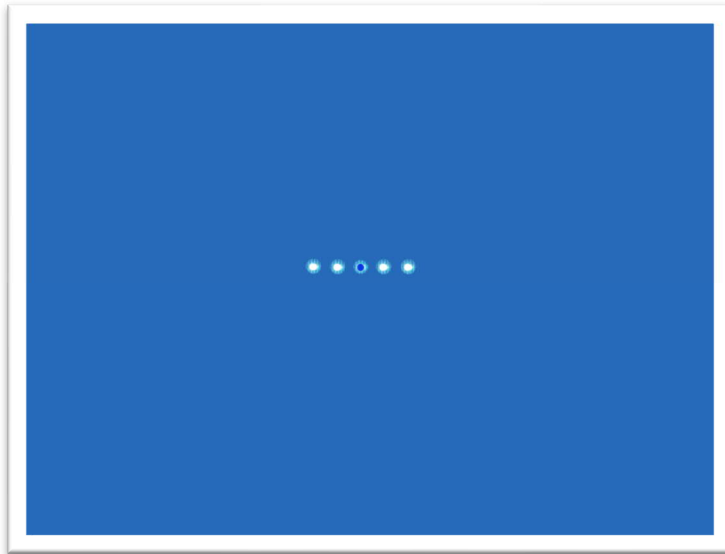
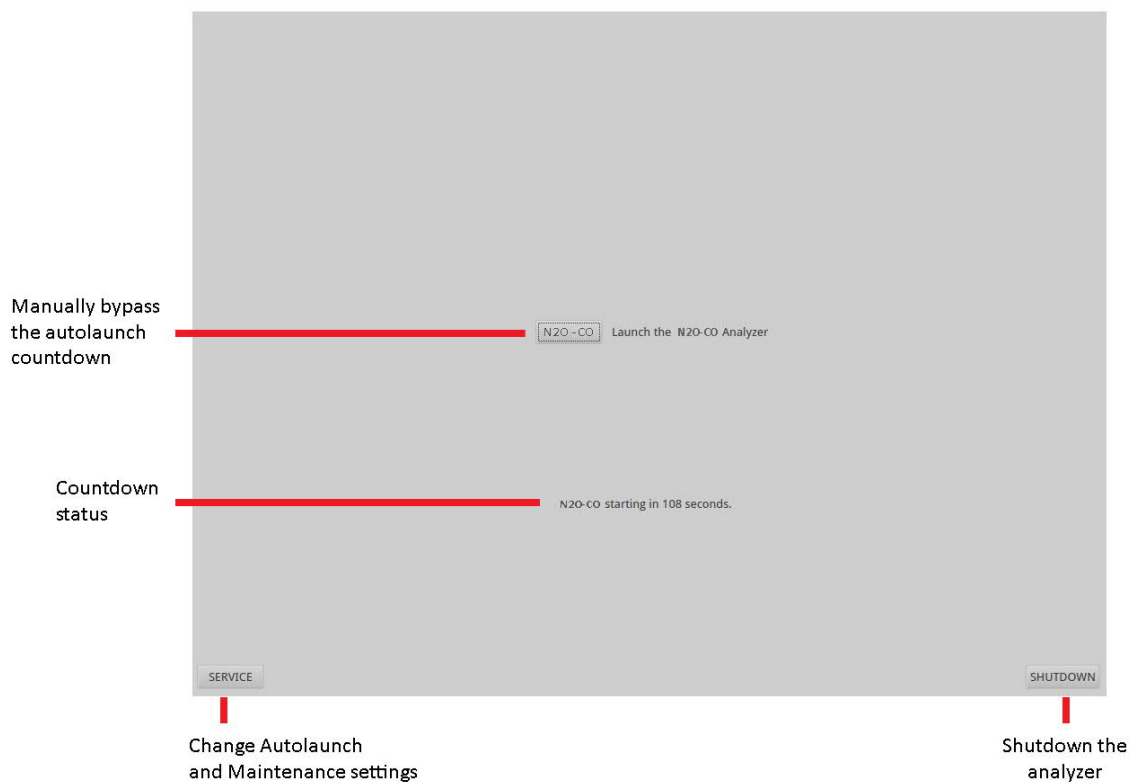
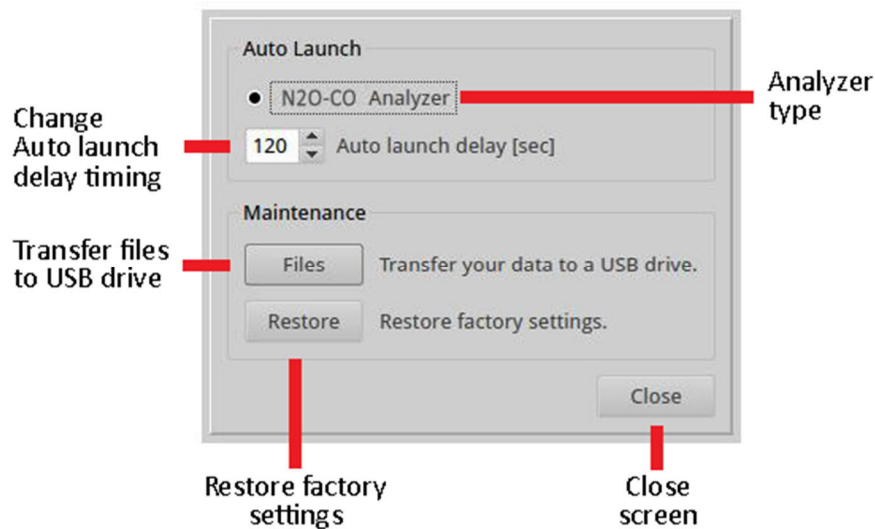

Figure 20: Start up Screen in Busy Mode
Figure 22: Launch Service Screen
Figure 23: Auto Launch Screen (GLA351-N2OCM)
1. Press the power switch on the front of the analyzer to the ON position. (0 = OFF / - = ON) The internal computer initializes, and a screen (Figure 20) displays as the program loads. The *Launch Service* screen displays after initialization. (Figure 22)
- a. The launch button is the abbreviated name of the gas analyzer. For example, the GLA351-N2OCM button displays N2O-CO. (Figure 22)
3. Click on the maintenance SERVICE button (Figure 22) if you need more time or need to choose a *maintenance setting*. (Figure 23)
The *Launch Service* screen displays when initialization is completed. (Figure 22) From this interface, you can:
- The launch button is the abbreviated name of the gas analyzer. For example, the GLA351-N2OCM launch button displays N2O-CO as shown in Figure 22.
Figure 23 shows the *Auto Launch* screen for the GLA351-N2OCM.